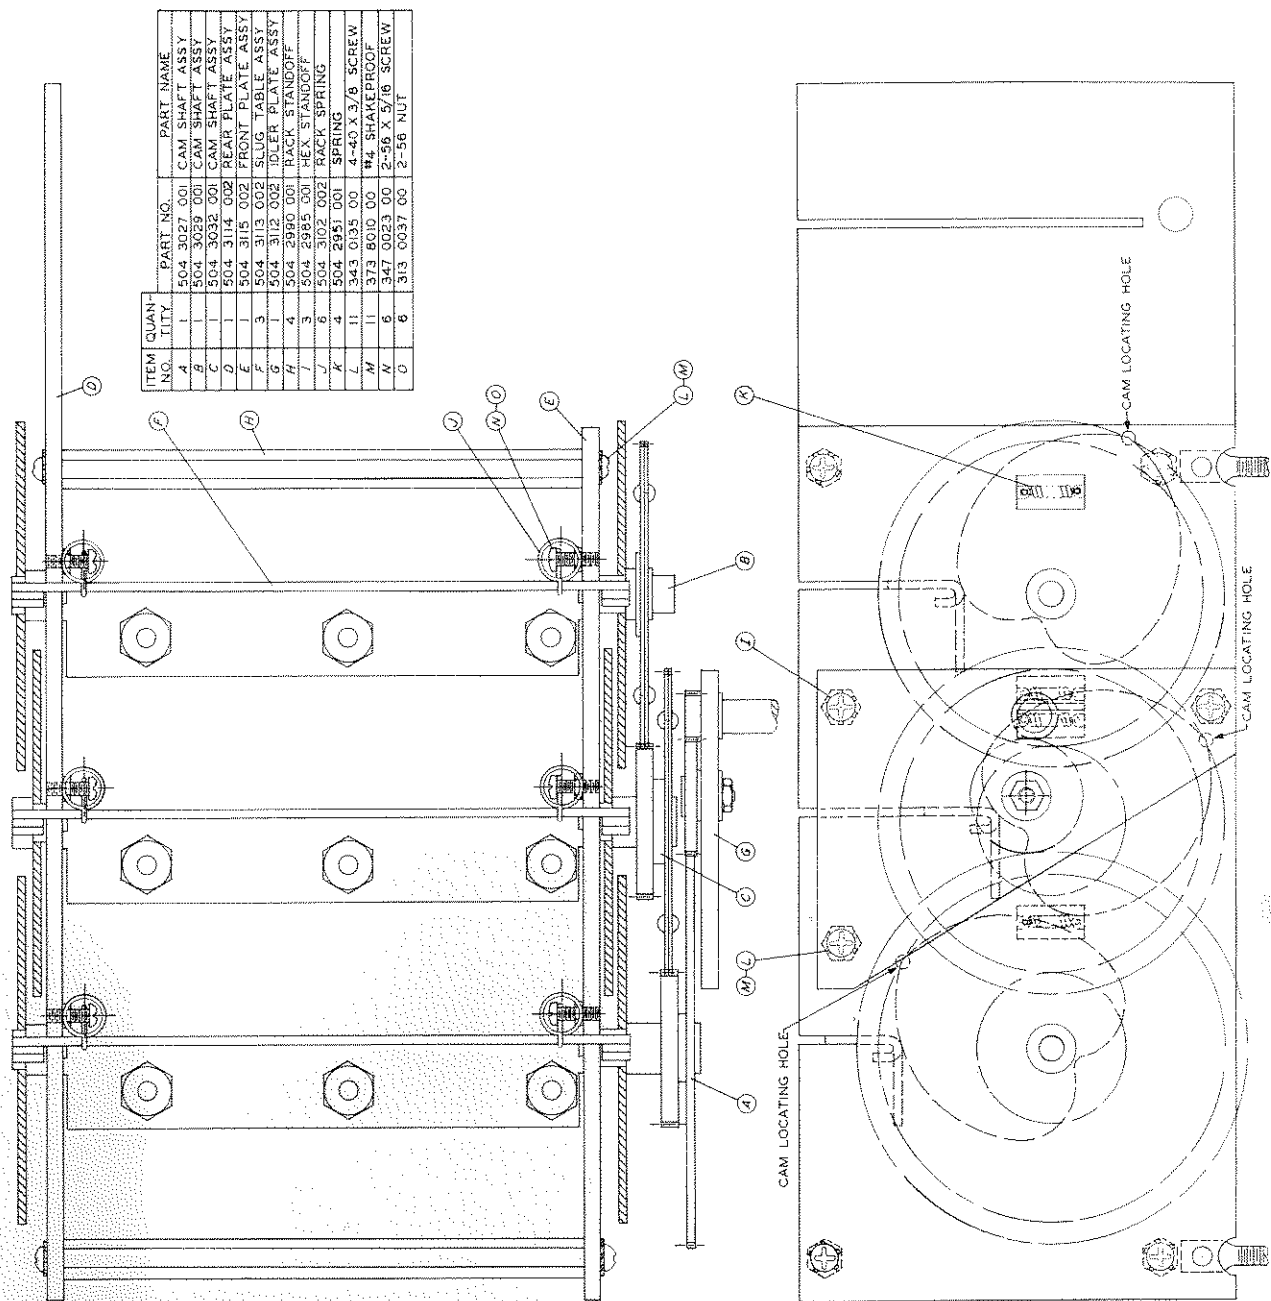

Figure 5-5. 51J-3 R. F. Slug Rack
5.7.2. POSITIONS OF CAMS. - The front plate of the slug rack assembly contains three alignment holes as indicated in figure 5-5. If the cams are correctly synchronized, the tips of the front cams will be directly opposite these holes. Use a dental mirror to accurately inspect the position of the cam tips in relation to the alignment holes. If a dental mirror is not available, check positions and operation of the cams in the following manner.